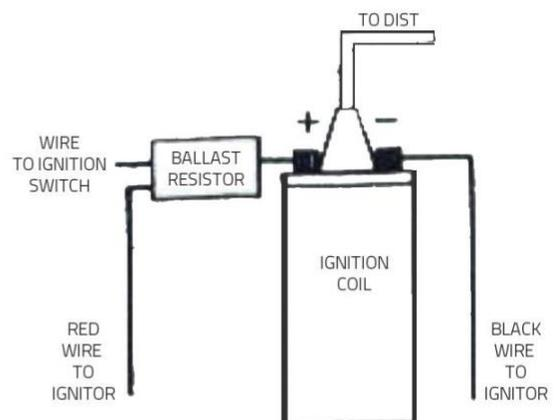

Figure 2 - Wiring Diagram
5. The red wire from the Ignitor must be connected to the positive (+) side of the coil, or a 12 volt switching power source. The black wire must be connected to the negative (-) side of the coil. (See Figure 2)
13. Connect the Ignitor red wire to the ignition switch side of the resistor. (See Figure 2).